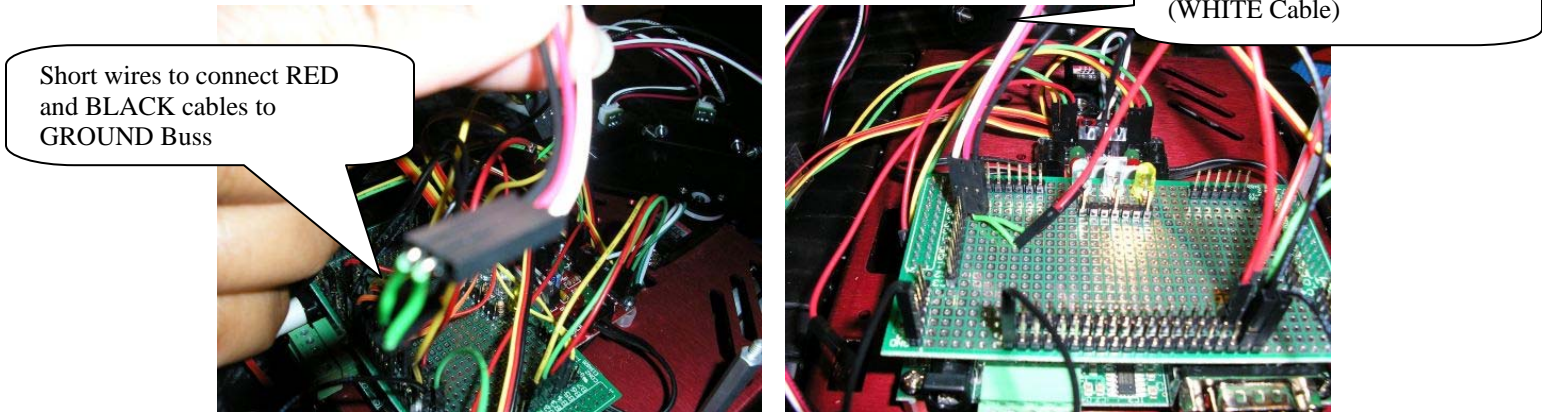

Figure 2: Infrared Sensors Connections
- iv. To use the 3 infrared sensors on the front of the robot, connect them to the microcontroller using the 3 sets of red, white and black cables. Use a short wire and a 6" jumper wire to connect the black wire on each cable to the **Ground** buss. Use a short wire and 6" jumper wire to connect the center **RED** wire on all 3 cables to the **VCC** buss (see Figure 1b). Finally, insert the **WHITE** cable on the robot's left IR sensor into **RA0**, the **WHITE** cable on the center IR sensor into **RA1**, and the **WHITE** cable on the robot's right IR sensor into **RA2** (see Figure 2).